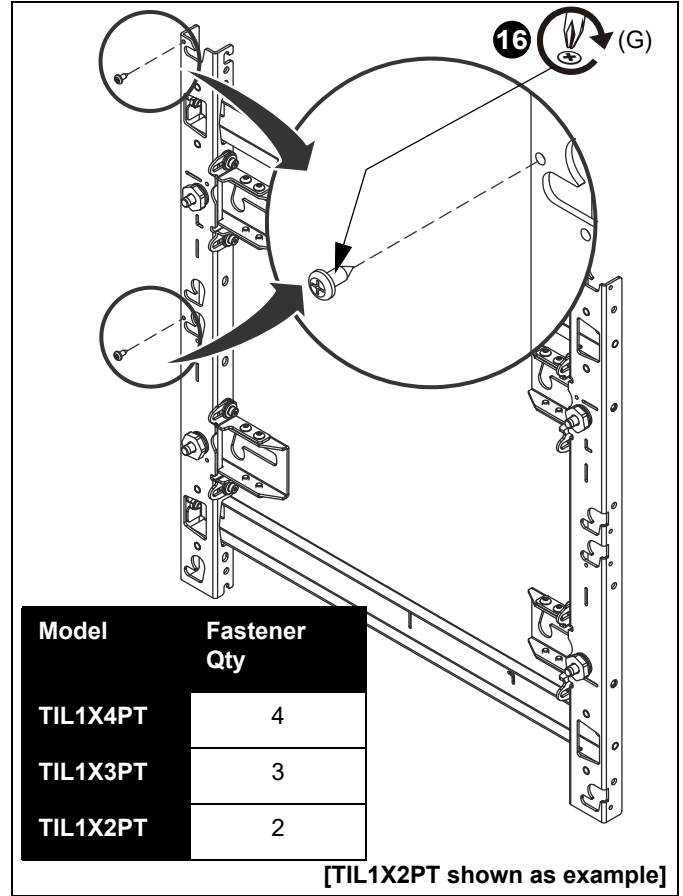

Figure 14
16. Install one #10 x 1/2" Phillips tapping screw (G) into left upper LED mounting button hole for each LED screen space. Install the tapping screws ONLY on the furthest left column of mounts. (See Figure 14)